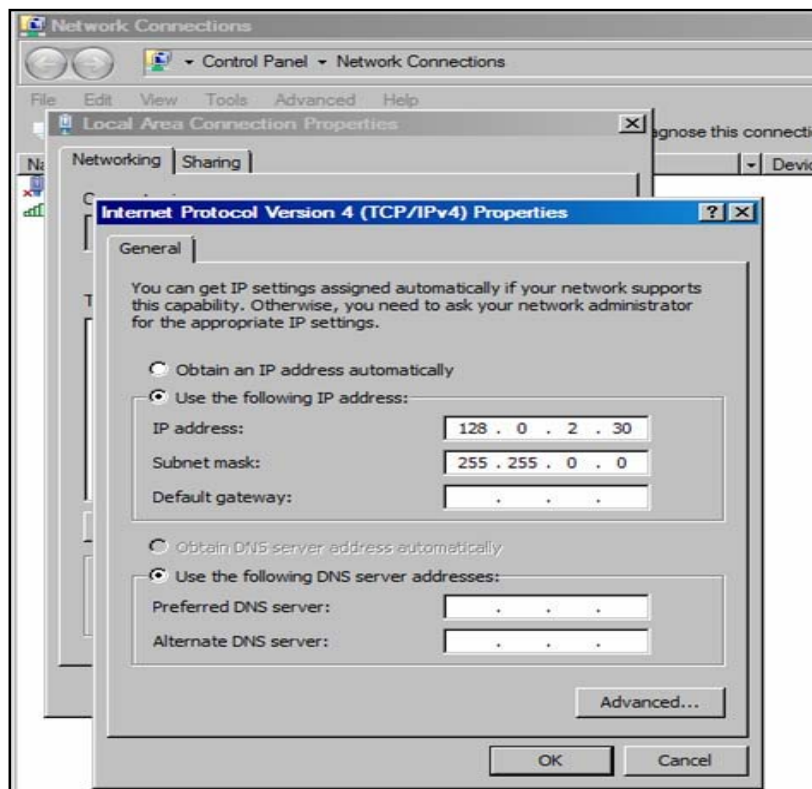

Figure 5-4. Manually Enter the IP Address
5. Click on the second option, *Use the Following IP Address;* **Figure 5-4**, and manually enter the IP Address: 128.0.2.30. The Subnet mask will automatically default to 255.255.0.0.